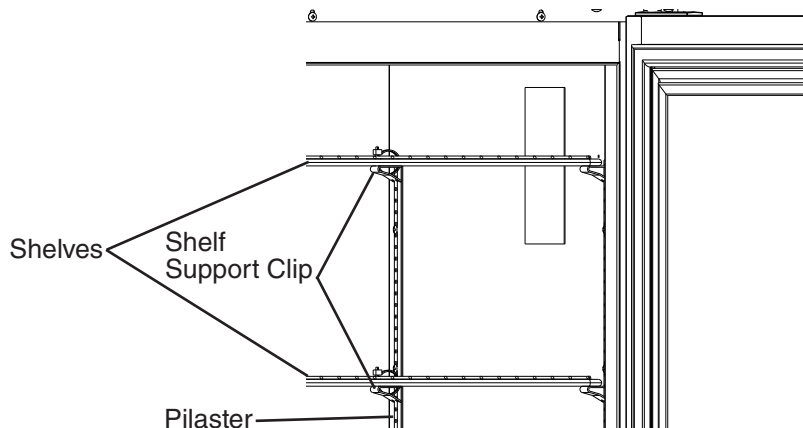

Fig. 2
- 1) For each shelf, place the shelf support clips into the pilasters at the desired height (4 shelf support clips per shelf). See Fig. 2.